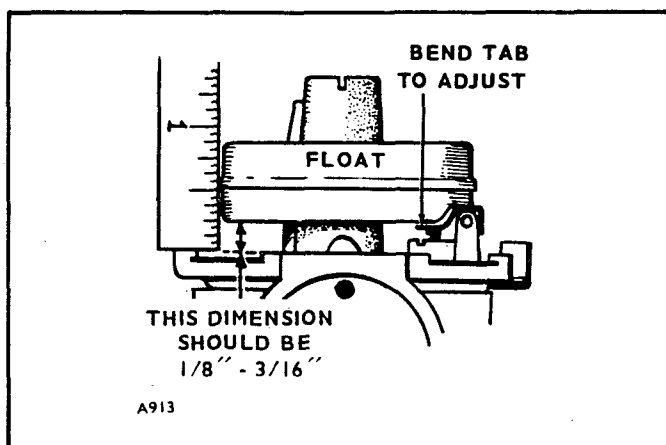

FIGURE 7. FLOAT ADJUSTMENT
Check the adjusting needles and nozzle for damage. If the float is loaded with fuel or damaged, replace it. The float should fit freely on its pin without binding. Invert the carburetor body and measure the float level (Figure 7). If necessary, bend the small lip that the intake valve rides on to adjust float level.
5. Check the float level with the carburetor casting inverted. See Figure 7.